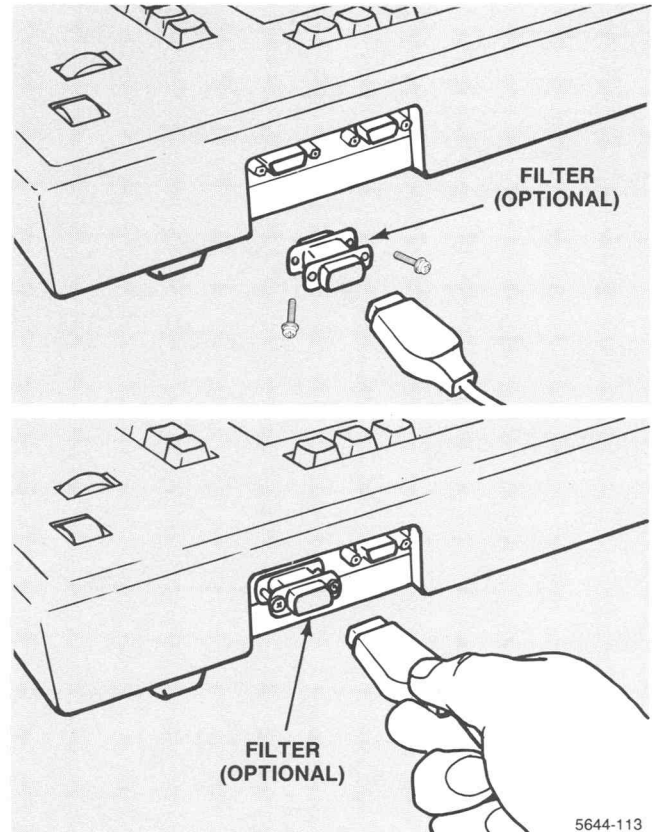

Figure 7-6. Installing a Joystick and Filter.
- Connect a joystick and filter to the male keyboard port (left port looking at the back of the keyboard, as shown in Figure 7-6). The joystick plugs directly into the male port. To install the joystick with a filter, attach the filter to the male port (using the screws supplied with the filter) and plug the joystick into the filter.